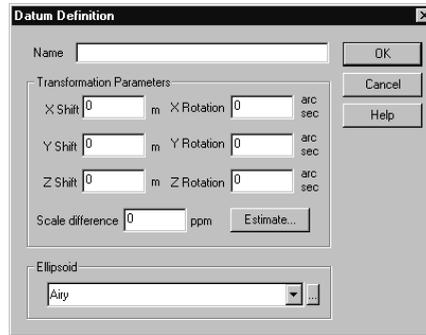

Figure 9.1. Datum Definition Dialog Box
3. In the **Datum Definition** dialog box, Figure 9.1, enter the name for the new datum.